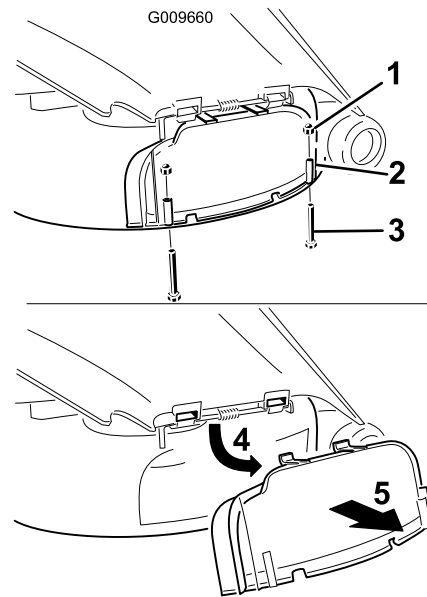

Figure 25
3. Remove the 2 bolts and nuts that secure the discharge cover to the mower (Figure 25).